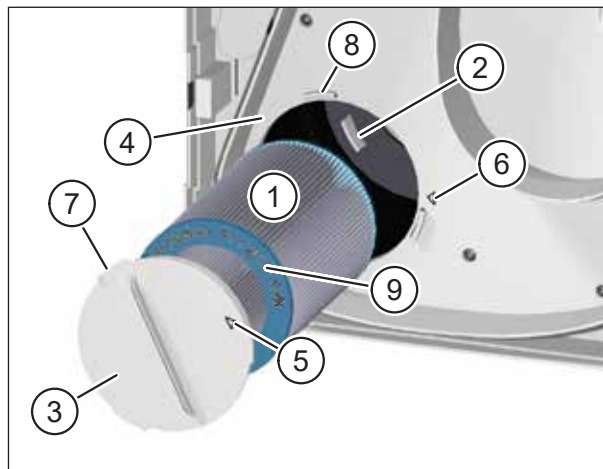

Fig. 17: Insert new outdoor air filter
- ▶ Carefully guide the new outdoor air filter (item 1 in Fig. 17) into the ventilation unit.
- ▶ Make sure that the air filter slides into the 3 retaining tabs (item 2 in Fig. 17) on the back wall of the ventilation unit.
- ▶ Place the filter cover (item 3 in Fig. 17) on the outdoor air filter. Make sure that the filter cover lies flat on the intermediate plate (item 4 in Fig. 17).
- ▶ Turn the filter cover clockwise until the arrow on the filter cover (item 5 in Fig. 17) lines up with the arrow for the locking position (item 6 in Fig. 17). Make sure that the 3 tabs (item 7 in Fig. 17) on the filter cover engage in the retainers (item 8 in Fig. 17) on the intermediate plate.
- Only M-WRG-II FA, part no. 750010, and M-WRG-II FK (activated charcoal filter), part no. 750020, may be used as the outdoor air filter. The part no. and air filter class are imprinted on the turquoise end plate of the air filter (item 9 in Fig. 17).